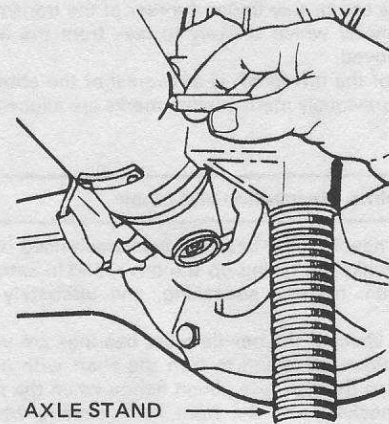

Fig. 7.2 Marking the driveshaft (Sec. 6)
- 5 An assistant should now place a crayon or piece of chalk so that it just contacts the rear end of the driveshaft. Obviously great care must be taken to avoid injury (Fig. 7.2).